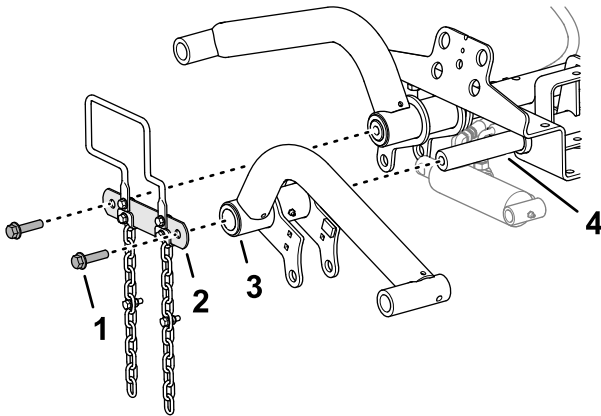

**Figure 12**
1. Align the cap end of the lift cylinder with the holes in the left lift-arm flanges (Figure 12).
2. Assemble the cylinder to the flanges with the mounting pin and 2 snap rings (Figure 12).
3. Apply No. 2 lithium grease to the grease fittings of the lift arm and the hydraulic cylinder (Figure 12).